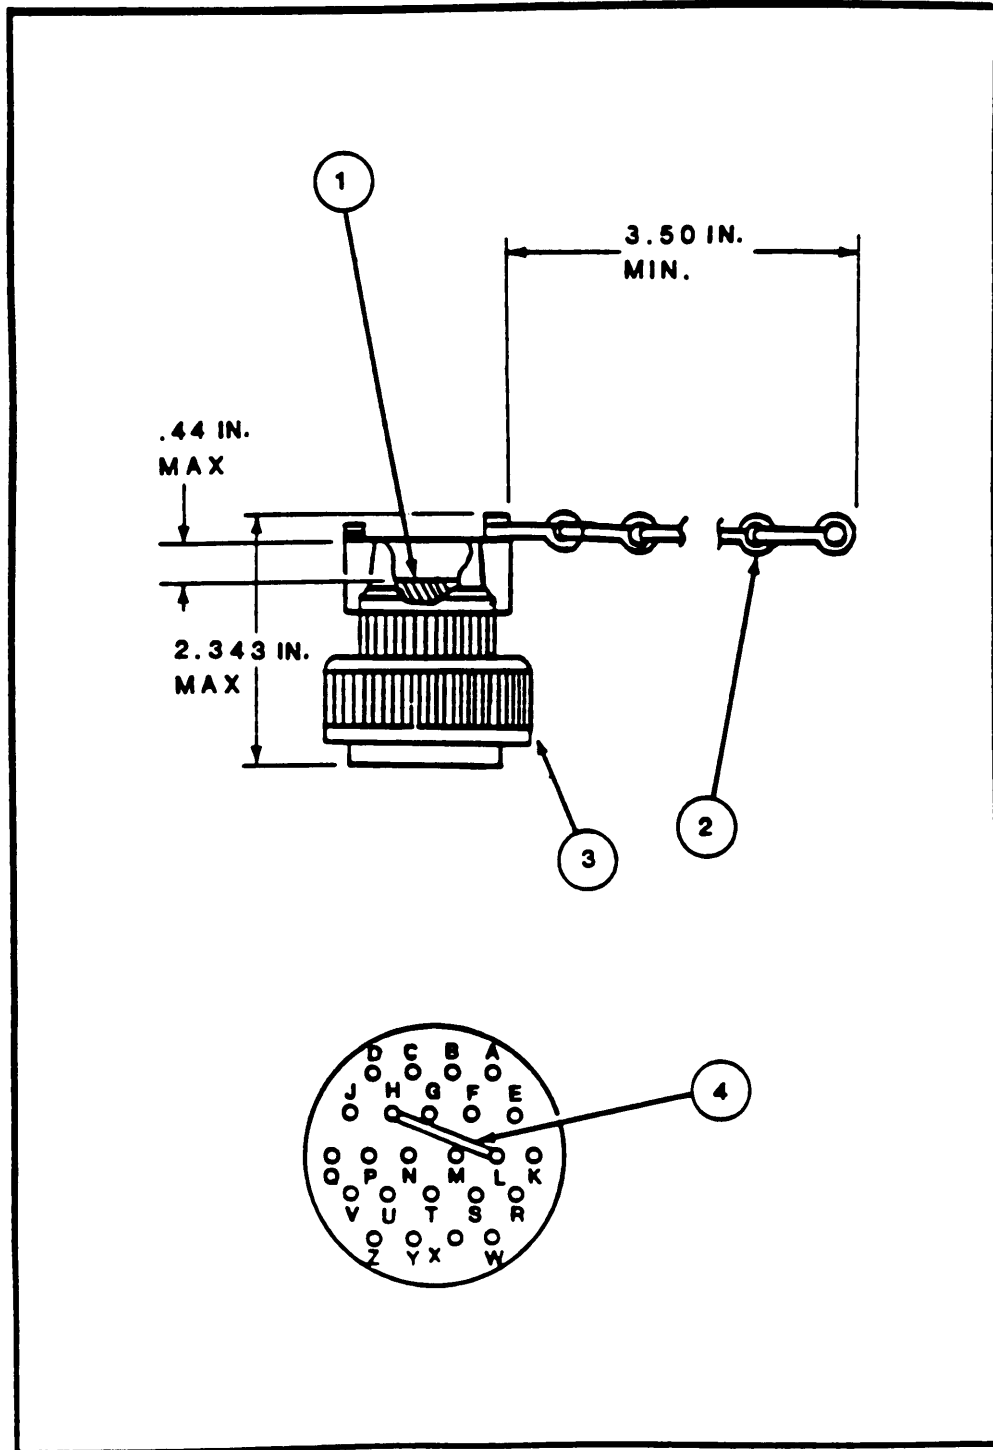

Figure 5-19.1. Connector plug, Electrical
e. Manufacture. To manufacture the plug, chain assembly use the connector, plug, electrical NSN 5935-00-548-1529, CAGE/PN (96906) MS3456W24-28P. Also use the wire, electrical NSN 6145-00-578-6605, CAGE/PN (81349) M5086/2-16-9. Connect pin (H) to pin (L) per figure 5-19.1.